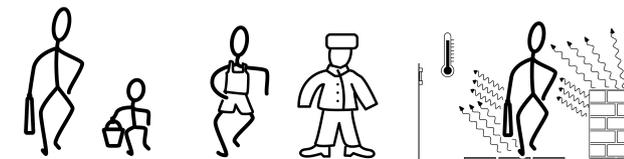

Figure 5: Size, insulation and contrast of heat sources
- Size of the heat source, e. g. adult or child (Figure 5)
- Temperature of the heat source: surfaces at 37 °C radiate more intensely than at 10 °C(Figure 5).
- Direction of movement: if detection radiation passes tangentially, this typically results in an abrupt sensor signal which can be evaluated well. However, if a heat source moves radial to the sensor, the sensor signal changes happen more slowly. This makes differentiation from the background noise significantly more difficult (Figure 5).